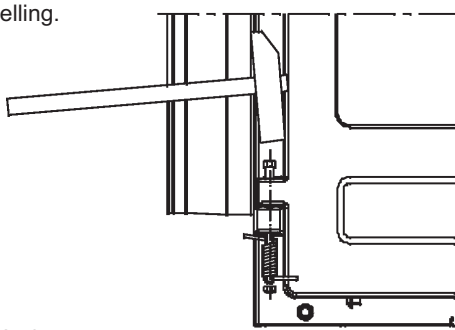

Figure 1
-Close the door, remove the front plinth, remove the pin from the lower hinge, insert the screw to protrude some 15 mm from the hinge. Fix the spring onto the screw and pull it at one end to engage the door edge. While holding the spring in the position, press the screw down and fix it with the nut (see Figure 1).